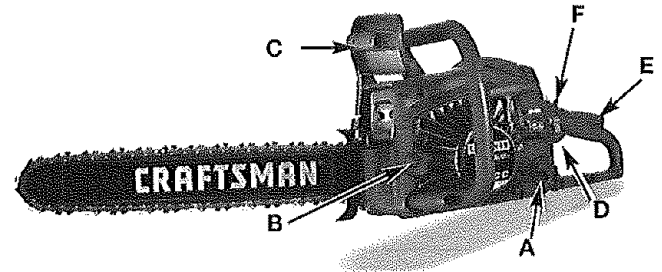

Fig. 3
- NOTE:** For emergency stopping, push the lever of the chain brake lever/hand guard (C) forward and move the STOP switch up (Fig. 3, 4).
5. Hold down safety trigger (E) and squeeze the throttle trigger (D). With thumb, press down on the throttle latch (F). Release trigger (D) first. This will lock the throttle into wide open position (Fig. 3). Pull the rope with a controlled and steady motion 4 times.